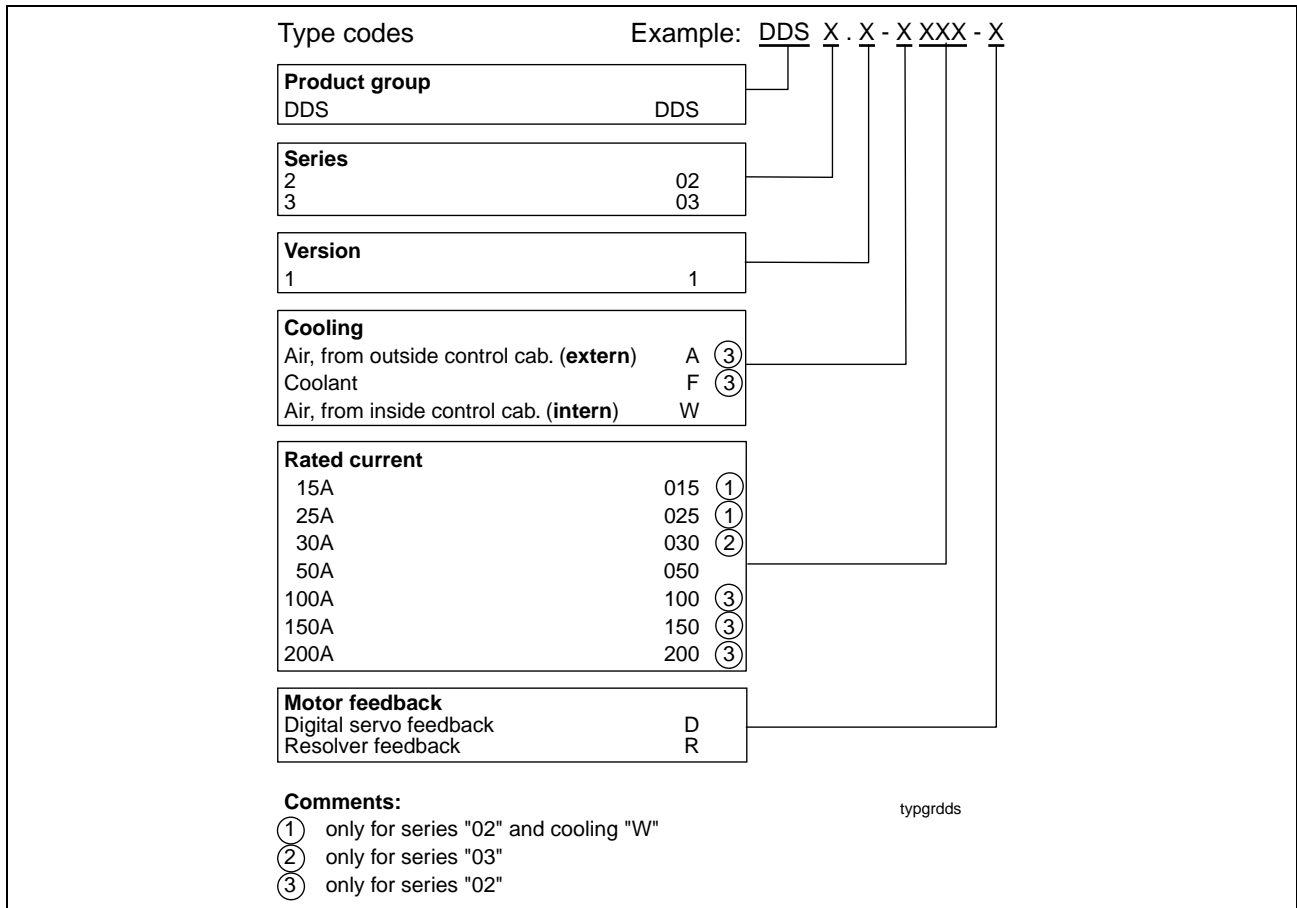

Fig. 3-5: Type codes of the DDS basic unit
**i** There are, independent of the rated current, two types of drive controllers (basic units). Only motors with **Digital Servo Feedback (DSF)** can be connected to the one type and only motors with **Resolver feedback (RSF)** (see Fig. 3-5 „Motor feedback“) can be connected at X4 of the other type.